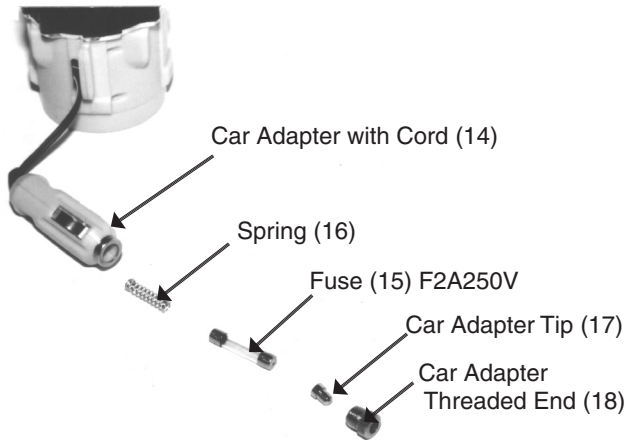

Figure 1
1. Unscrew the Threaded End (18) from the Car Adapter with Cord (14) as shown in Figure 1.
2. Pull out the Fuse (15) from the Car Adapter and Cord (14). The Fuse compartment also includes one Spring (16) and one Car Adapter Tip. These may come out when removing the Fuse (15).
3. The Fuse (15) is a F2A250V amp fuse. Do not replace with a different size fuse, as this may result in excessive heat and explosion, destroying the Spotlight and resulting in injury.
4. Insert the Spring (16), and replace the Fuse (15). Set the Car Adapter Tip (17) over the Fuse and into the Threaded End (18) of the Car Adapter with Cord (14). Screw Threaded End (18) back onto the Car Adapter.